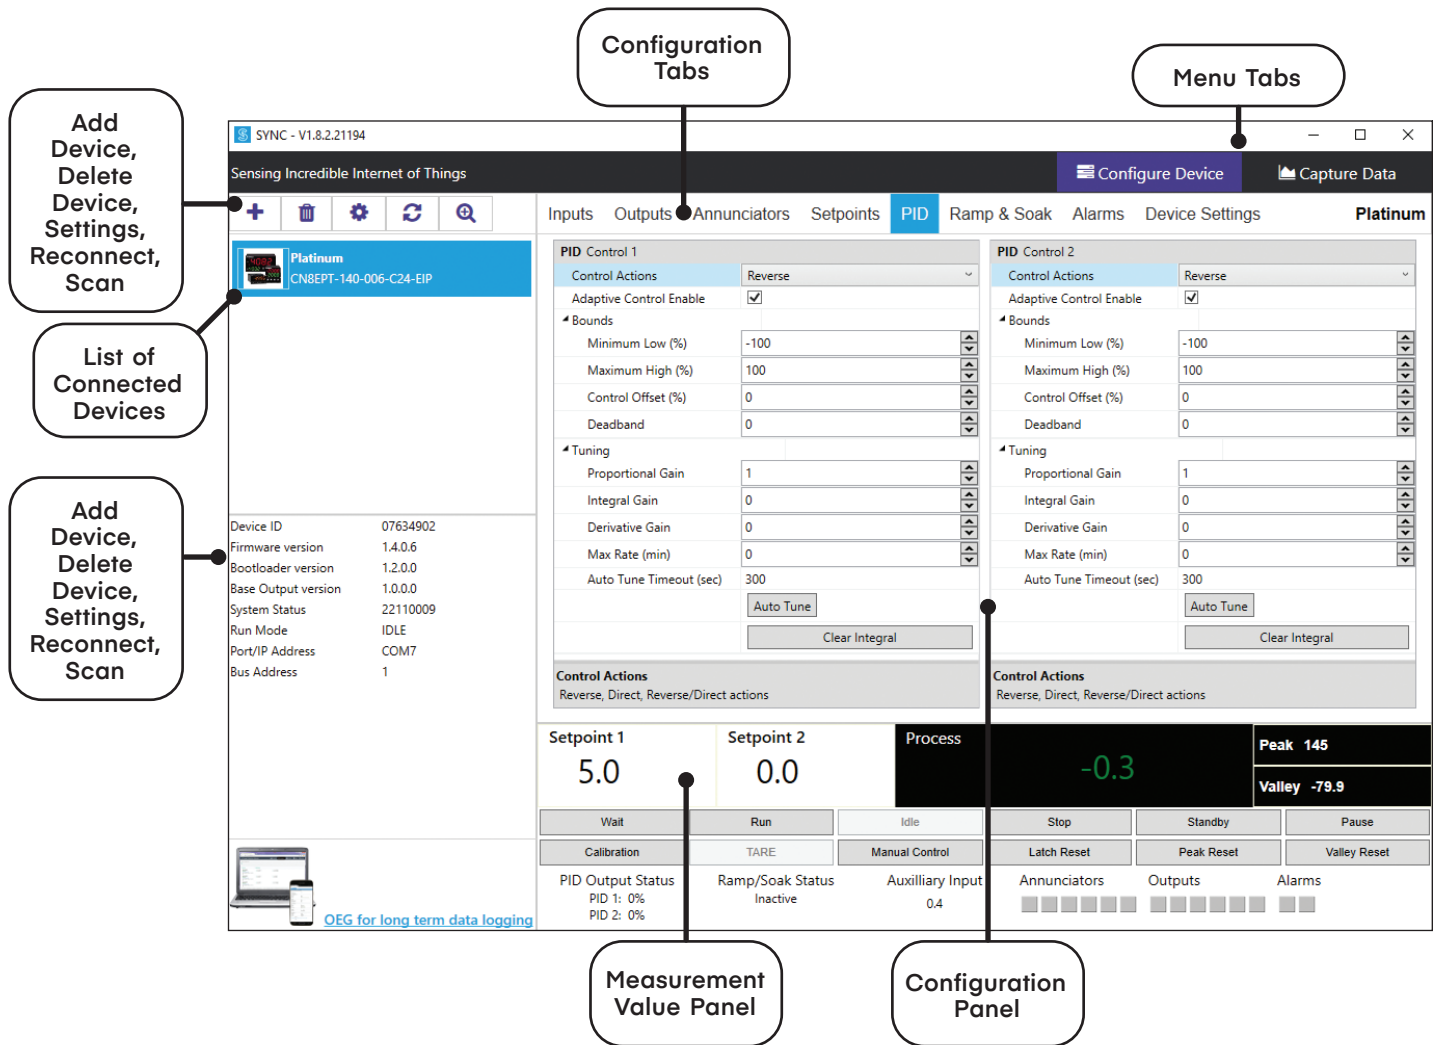

Figure 3: SYNC UI Overview
The blank Configure Device interface is the first view you see after SYNC is launched. Once a device is connected, you will see an interface like the one displayed in **Figure 3**.
**Note:** The **Configure Device** menu tab interface may look differently than the one displayed in **Figure 3** depending on the product that is connected.
Clicking the **Add Device** icon  (Figure 3) will lead to a wizard that guides you through the process of adding a device to SYNC. Ensure SYNC is running on a Windows OS computer before continuing. Connect the device to a computer and select the appropriate communication interfaces..
The device can be deleted by clicking the Delete icon  (Figure 3).
The Device Attributes list will appear when you click on a device from the Device List section (**Figure 3**).